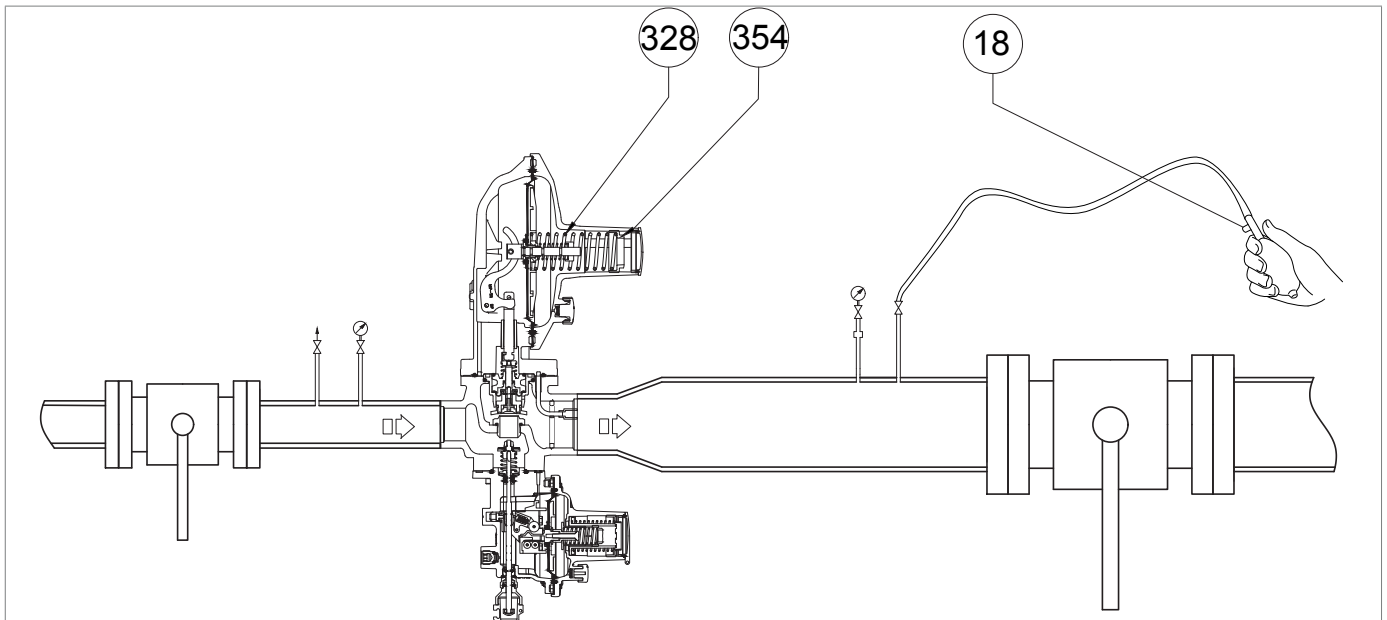
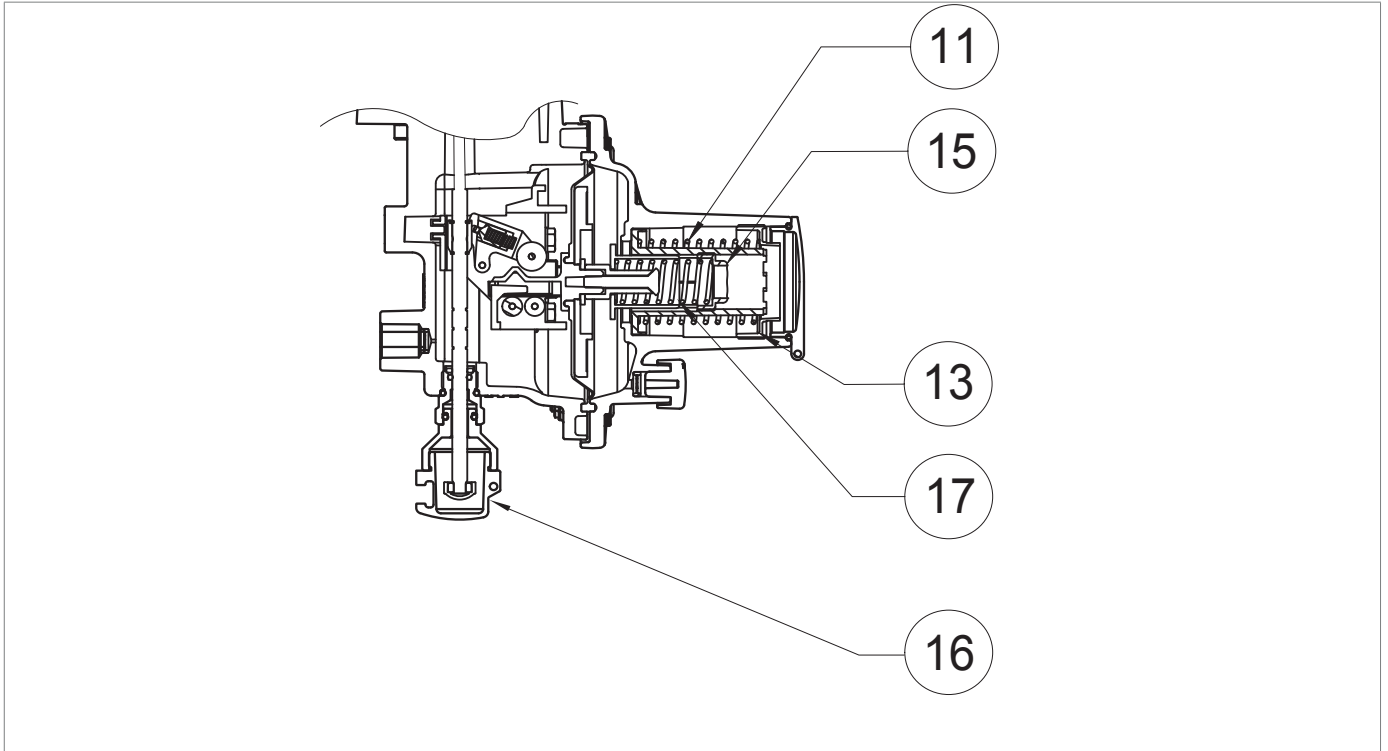
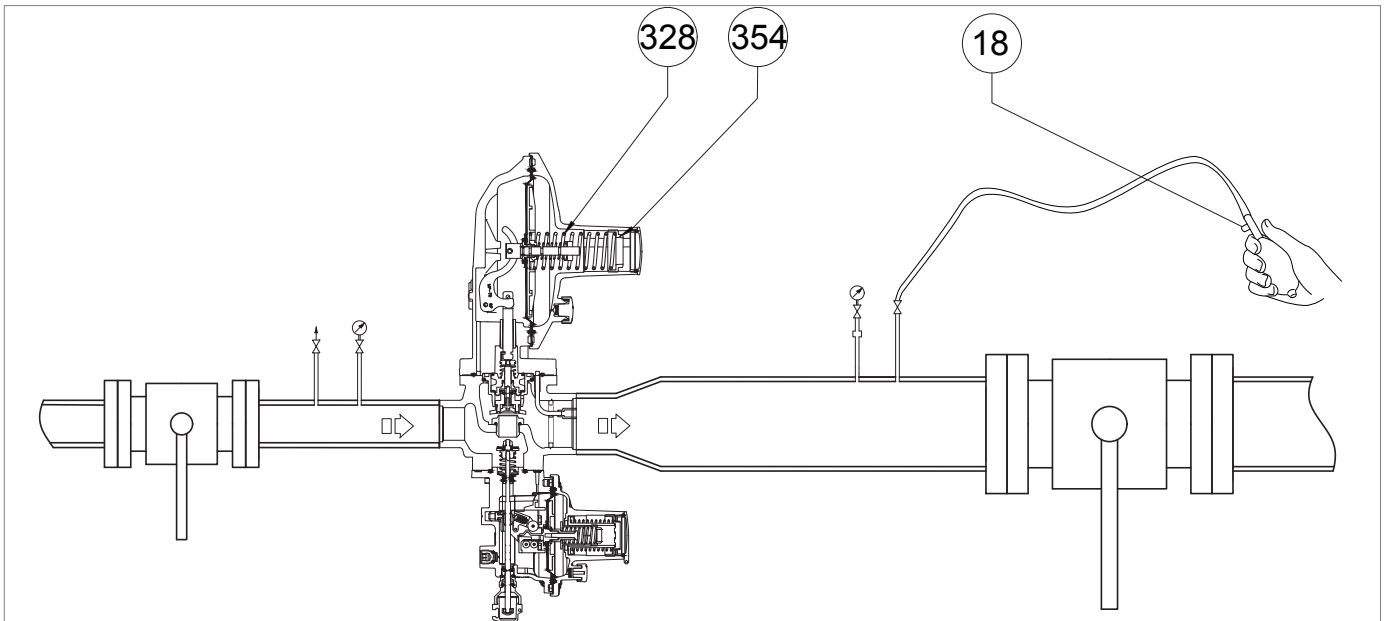

Fig. 8.22. Pressurising with external source for incorporated LA slam-shut valve
Fig. 8.20. Calibration of pressure switch for LA slam-shut valve
Fig. 8.21. Pressurising with external source for incorporated LA slam-shut valve
1	<p>Increase the downstream pressure to the tripping value of the slam-shut valve, connecting an external pressure source to the bleed cock (Fig. 8.20, ref. 6) placed on the downstream pipe, making sure to open an additional bleed cock (Fig. 8.22, ref. 18).</p> <div style="border: 1px solid black; padding: 5px;"> <p>! NOTICE!</p> <p>Check the pressure referring to the downstream pressure gauge (Fig. 8.20, ref. 5).</p> <p>If the slam-shut valve:</p> <ul style="list-style-type: none"> • trips before the expected pressure value: screw in (clockwise) the adjustment ring nut (13) so as to further compress the spring (11); • does not trip at the expected pressure value: unscrew (anti-clockwise) the adjustment ring nut (13) so as to relieve the spring (11). </div>
2	Decrease the pressure of the downstream section by opening the additional bleed cock (Fig. 8.22, ref. 18) to bring it up to the calibration value of the main regulator.
3	Close the additional bleed cock (Fig. 8.22, ref. 18).
6	Disconnect the external pressure source from the bleed cock (Fig. 8.20, ref. 6).
1	Partially open the bleed cock (Fig. 8.20, ref. 6) to the atmosphere and keep it open for the next steps.
2	Turn the adjustment ring nut (Fig. 8.20, ref. 3) of the regulator anti-clockwise to decrease the downstream pressure (Pd) to the minimum pressure required for tripping of the slam-shut valve.
3	<p>If necessary, remove the closing cap (Fig. 8.22, ref. 354) together with the adjustment ring nut and remove the regulation spring (Fig. 8.22, ref. 328).</p> <div style="border: 1px solid blue; padding: 5px;"> <p>! NOTICE!</p> <p>Check the tripping pressure value of the slam-shut valve indicated on the downstream pressure gauge (Fig. 8.20, ref. 5).</p> </div>
4	<p>If the slam-shut valve:</p> <ul style="list-style-type: none"> trips before the expected pressure value, unscrew (anticlockwise) the adjustment ring nut (Fig. 8.21, ref. 15), to relieve the spring (Fig. 8.21, ref. 17); does not trip at the expected pressure value, screw in (clockwise) the adjustment ring nut (Fig. 8.21, ref. 15) to further compress the spring (Fig. 8.21, ref. 17).
5	<p>After having checked that the slam-shut valve trips at the preset value, proceed as follows:</p> <ol style="list-style-type: none"> Close the air vent valve (Fig. 8.20, ref. 6) Position the regulation spring (fig. 8.21, ref. 328), the end cap (Fig. 8.22, ref. 354), the adjustment ring nut (Fig. 8.20, ref. 3) Slowly open the upstream shut-off valve (V1) until the downstream pressure value (Pd) reaches the calibration value of the regulator, referring to the downstream pressure gauge (Fig. 8.20, ref. 5) Close the upstream shut-off valve (V1) Slowly and partially open the air vent valve (Fig. 8.20, ref. 6) to decrease the downstream pressure referring to the downstream pressure gauge (Fig. 8.20, ref. 5) until it reaches the minimum pressure tripping value Check the minimum pressure spring for proper calibration by repeating steps 2-3-4 at least three times Calibrate the main regulator referring to par. "8.5 - Regulator commissioning procedure"
7	Turn the adjustment ring nut clockwise (Fig. 8.20, ref. 3) to increase the downstream pressure to the regulator's setpoint.
9	Close the bleed cock (Fig. 8.20, ref. 6).